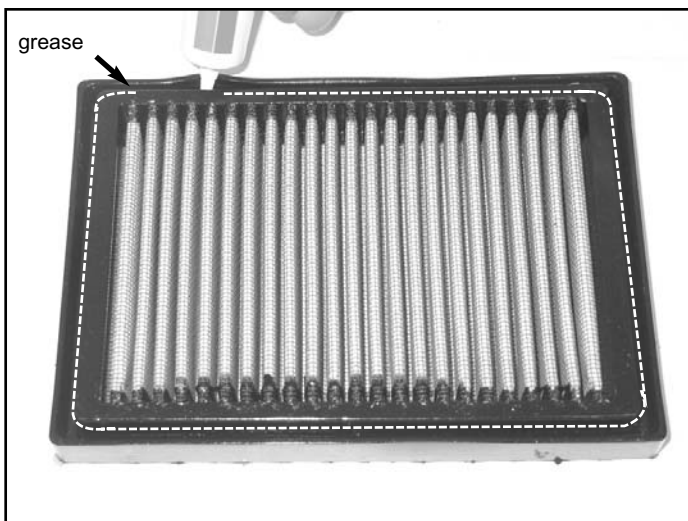

Fig. 1
3. Apply the provided K&N Sealing Grease inside the groove on the backside of the K&N Air Filter. (Fig. 1)